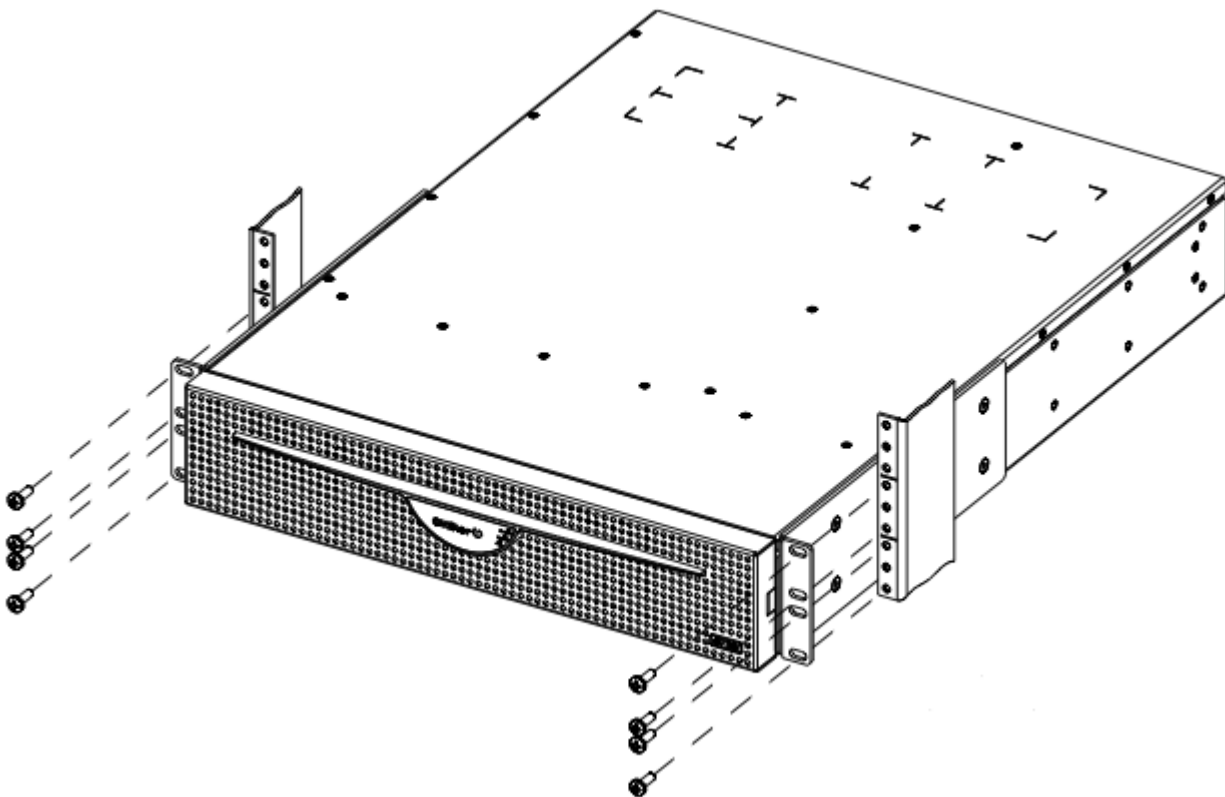

Figure 3-1 Cougar Being Attached to the Equipment Rack
Step 2: Attach the ONStor Cougar 6000 Series NAS Gateway with four 12-24 x 5/8" screws per mounting ear. The mounting ears span two rack units (RUs). See Figure 3-1.